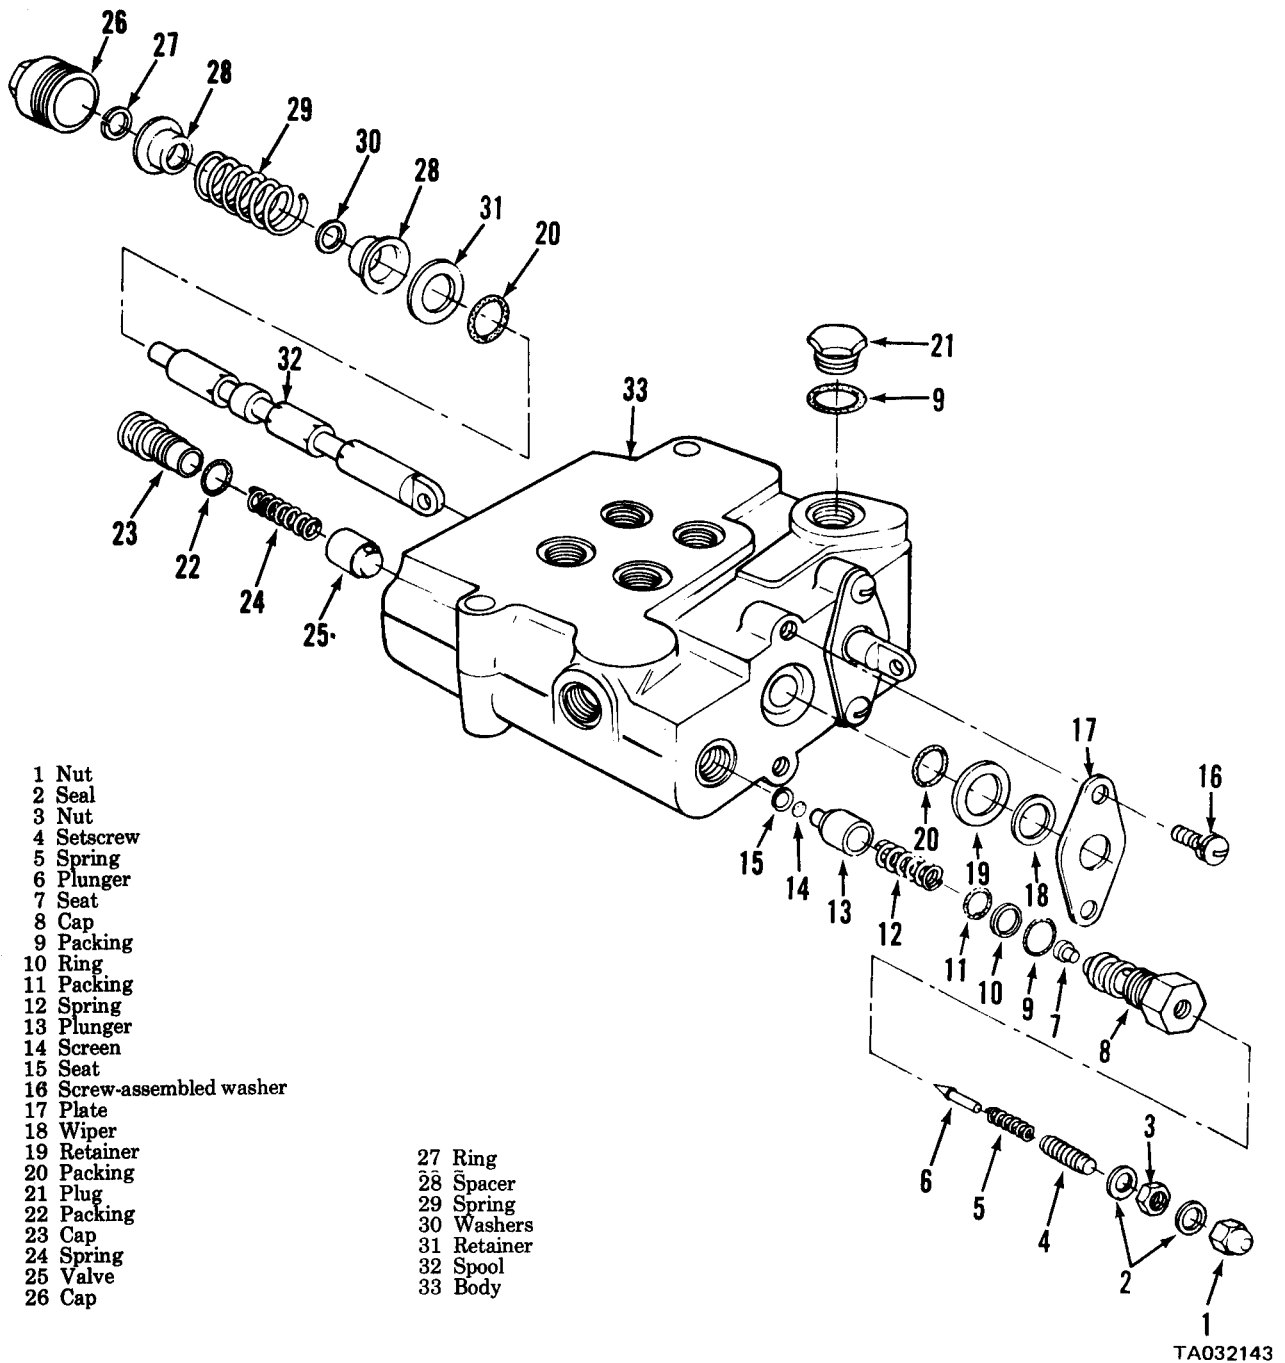

Figure 6-4. Two-spool valve, disassembly and reassembly.
c. Disassembly. Refer to figure 6-4 and disassemble the two-spool valve.
(1) Clean all parts carefully, using solvent P-D-680 or equal.
(2) Inspect the plunger (6, fig. 6-4) and the pilot seat (7) for nicks, burrs and scratches.
(3) Inspect the spool (32) for scratches and other damage.
(4) Inspect all other parts for distortion, scratches, burrs and other damage.
(5) Inspect all tubing and linkage for breaks and bends.
(6) Replace all defective parts.
e. Reassembly. Refer to figure 6-4 and reassemble the two-spool valve.